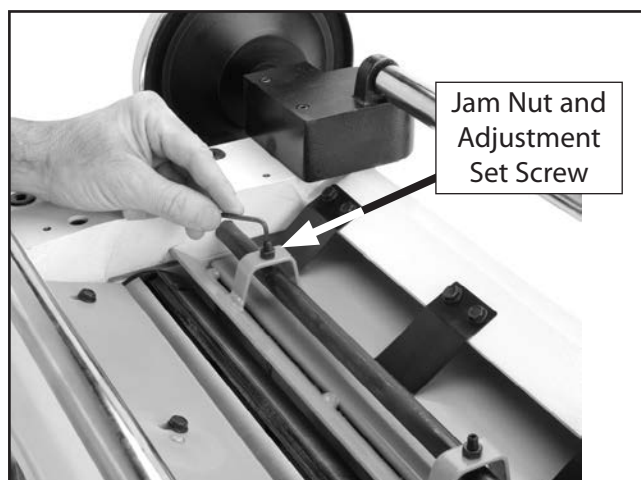

Figure 56. Chip breaker height adjustment.
13. Using same "0" reference on Rotacator dial from **Step 7**, perform similar steps as described above to adjust height of chip breaker to its recommended specification given at beginning of this subsection. The adjustment controls are shown in **Figure 56**.